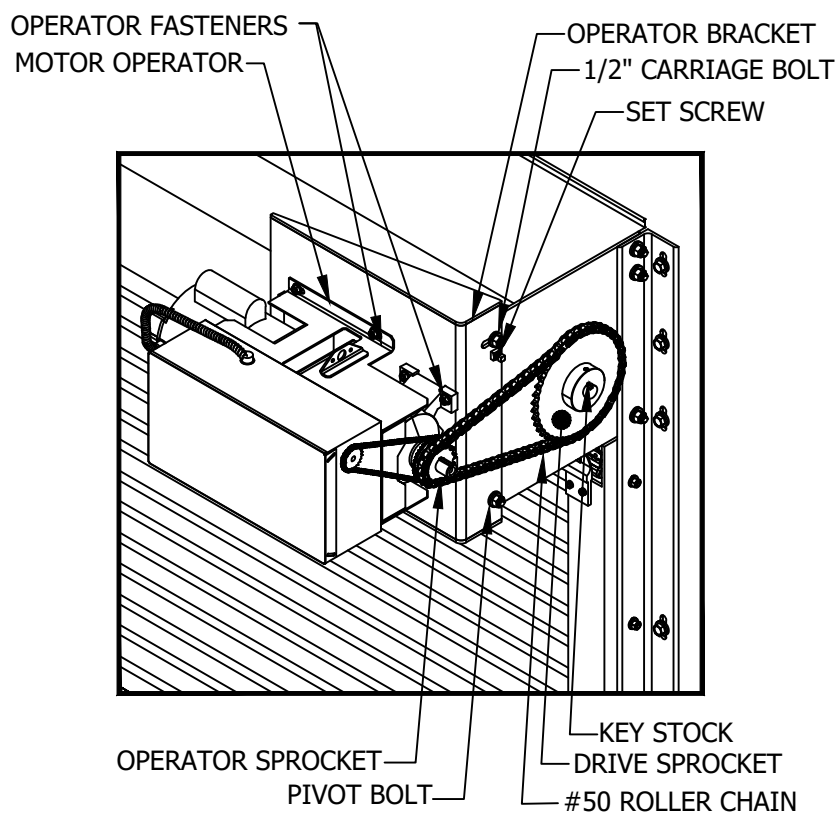

FIGURE C-1
- a. Attach the operator to bracket using the supplied hex bolts, flat washers, lock washers and hex nuts as shown in Figure C-1 & C-2.
- b. Install motor operator and bracket assembly to the drive side headplate with two 1/2" -13 NC X 1 1/4" carriage bolts as shown in Figure C-1 & C-2.
- c. Push the assembly toward wall as far as possible for drive chain installation, and temporarily secure the two carriage bolts as shown in Figure C-1 & C-2.